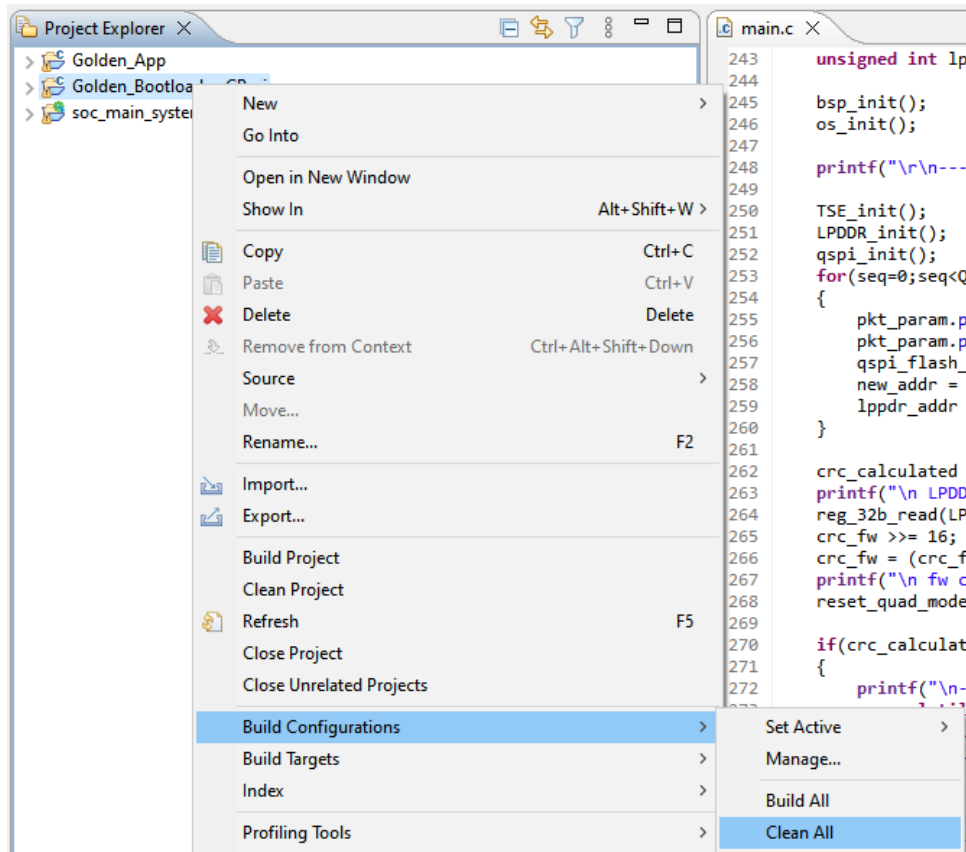

Figure C.39. Clean All Configurations
13. Right-click on the bootloader project folder **Golden_Bootloader_Cproj** and select the option as shown in Figure C.39 to clean the project before building.
14. After selecting the option as shown in Figure C.39, observe the console and wait for the process to reach 100%. After completion, the message shown Figure C.40 appears on the console.